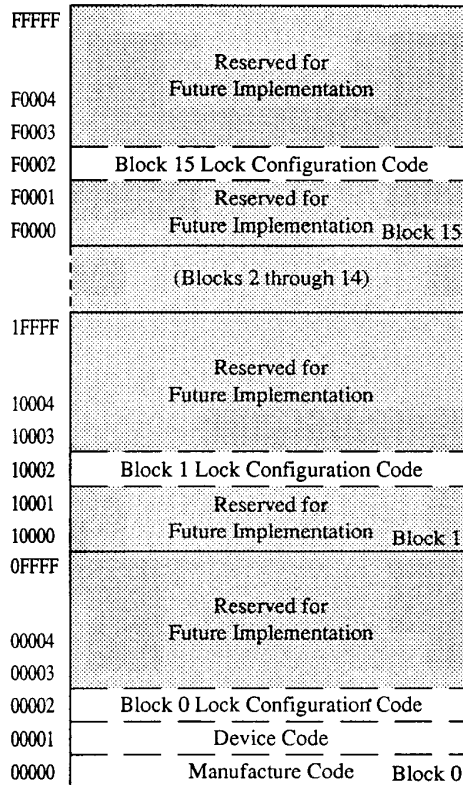

Figure 1. Device Identifier Code Memory Map
The read identifier codes operation outputs the manufacturer code (Block 0), device code (Block 0), and block lock configuration codes (for each block), see Figure 1. Using the manufacturer and device codes, the system CPU can automatically match the device with its proper algorithms. The block lock codes identify locked and unlocked blocks.
IA = Identifier Code Address; see Figure 1.
The host initiates the identifier code operation by writing the Read Identifier Codes command. Following the command write, read cycles from addresses shown in Figure 1 retrieve the manufacturer, device and block lock configuration codes (see Table 3 for identifier code data). To terminate the operation, write another valid command. Although Table 3 lists the device code as A6A6, this family of Sharp's ID243 Series Flash Memory Card could also have device codes AAAA. Host software should check for all two cases for compatibility with future cards.
1. × selects the specific block lock configuration code to be read. See Figure 1 for the device identifier code memory map.